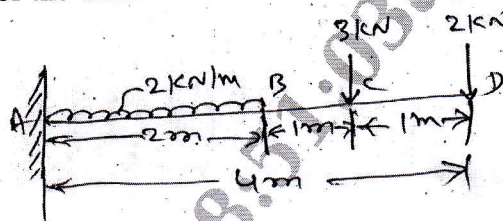

Fig. Q4 (c)
c. Draw the SFD and BMD for the Cantilever beam shown in Fig. Q4 (c). (10 Marks)